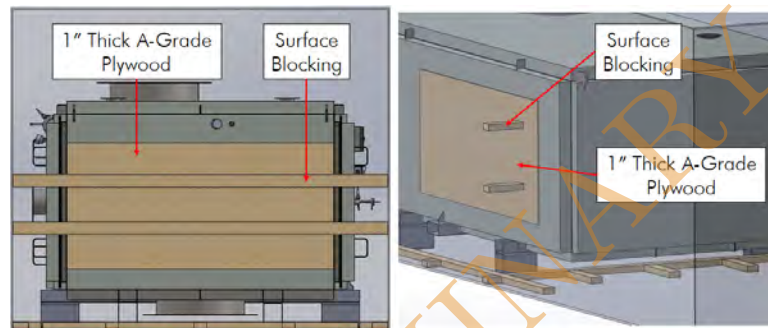

Figure 4.8: Surface blocking technique on two different surfaces of the ecoCUBE[®]
3. **Surface blocking:** Surface blocking must be applied to all surfaces except the bottom surface, as shown in Figure 4.8.